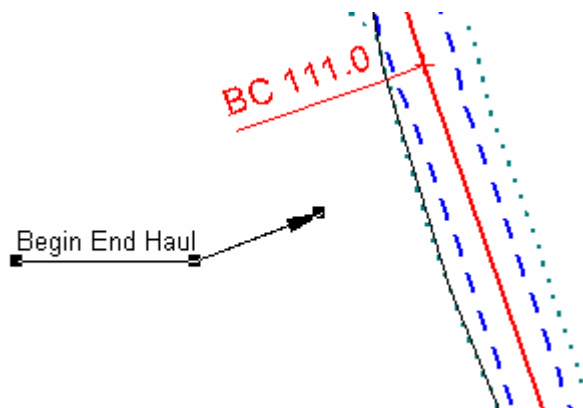

Figure 8.7: Floating Label
16. Adjust the label with the mouse until it looks similar to Figure 8.7. Click and drag on the arrowhead handle to move the whole label.